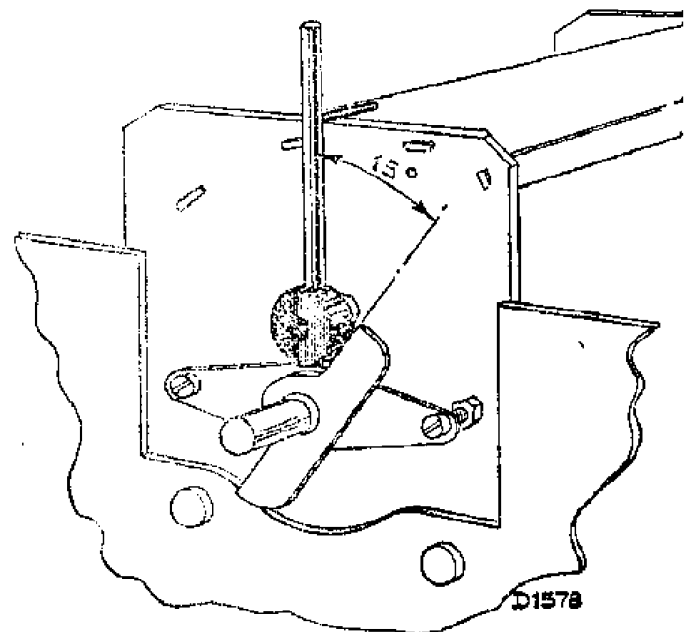

Fig. 5.
4. Fit 15° jig and set variable condenser to the jig (Fig. 5) (minimum capacity).